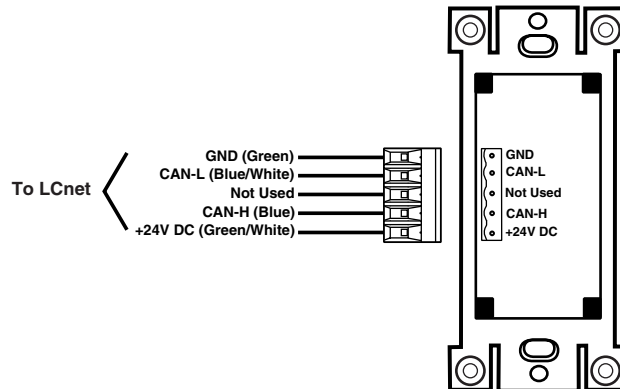

Figure 2-9:
2. Connect per wiring diagram (Figure 2-9) as follows: Insert each lead into appropriate plug connector location by pushing firmly. If using stranded wire, twist strands of each lead tightly (making sure that there are no stray strands) and push firmly into appropriate plug connector location. Tighten the screws on the plug connector making sure that no bare conductor shows. Connect plug connector to jack on the back of the Controller.
2. Connect per wiring diagram (Figure 2-9) as follows: Insert each lead into appropriate plug location by pushing firmly. If using stranded wire, twist strands of each lead tightly (making sure that there are no stray strands) and push firmly into appropriate plug location. Tighten the screws on the plug, making sure that no bare conductor shows. Connect plug into connector on the back of the SmartJack.